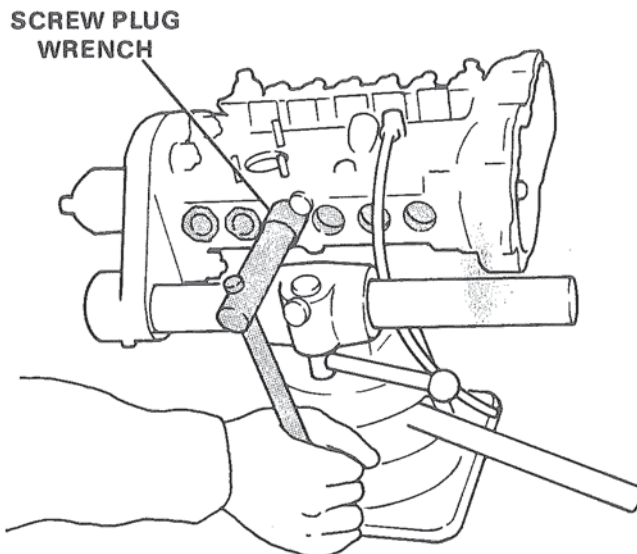

Figure 24. Removing Screw Plugs.
- B. Remove screw plug, using screw plug wrench, Special Tool No. 95905-03004. Figure 24.